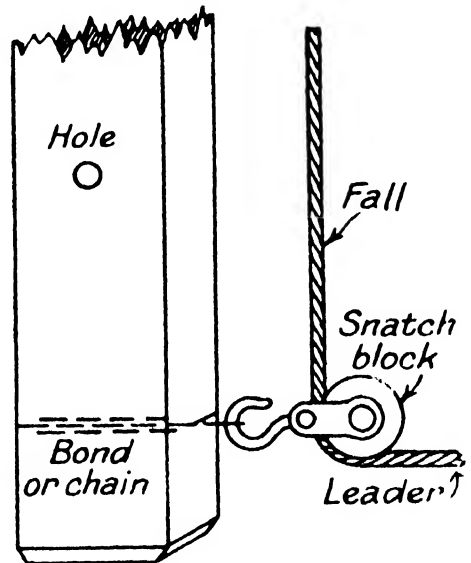
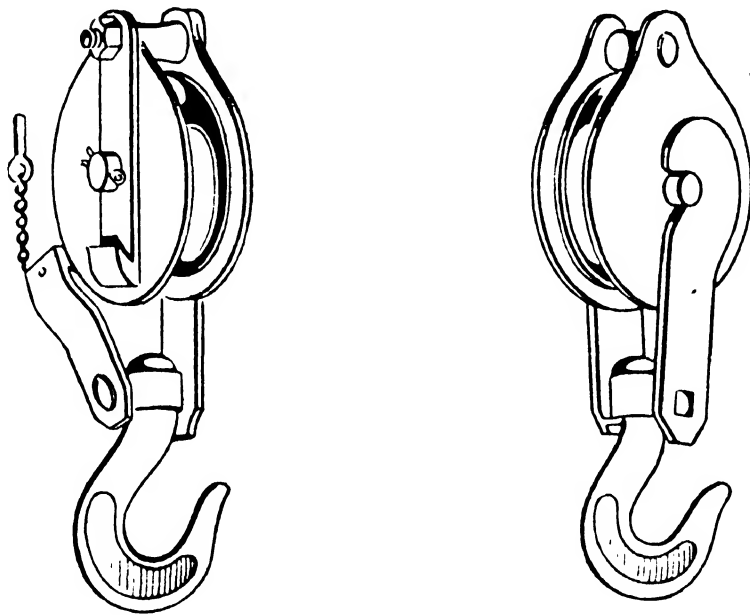

FIG. 4.—Derrick-pole : Arrangement at the base.
FIG. 13.—Snatch-blocks.
**The Snatch.**—Hoisting is mostly done with a winch, the block rope being led to the barrel by a snatch block, as shown in Fig. 4, secured to the base as low as possible, and as close to the pole as it can be secured. It must not be imagined that this will have the effect of dragging the pole along, as this cannot happen when multiple sheaved blocks are being used.
**The Snatch-block.**—The snatch-block, of which two types in common use are shown in Fig. 13, is a single-sheave block without a becket, and made for a particular purpose. As will be noted one side is broken, so to speak, and the housing for the pulley on this side is hinged to the hook-bar which allows the rope to be passed over the pulley at any desired point. The function of the snatch (as it is called) is to be a guide pulley for a haulage rope in the same way as a jockey pulley is for a belt drive. One snatch-block at least is necessary when using the winch for hoisting, as is shown in the section dealing with derricking (Fig. 4).